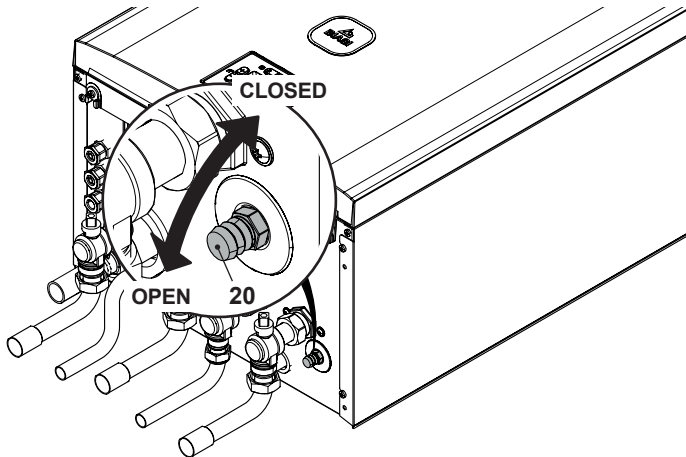

Figure 2.11
- 3 Loosen the central heating drain cock "20" (Figure 2.11) until the boiler is completely emptied.